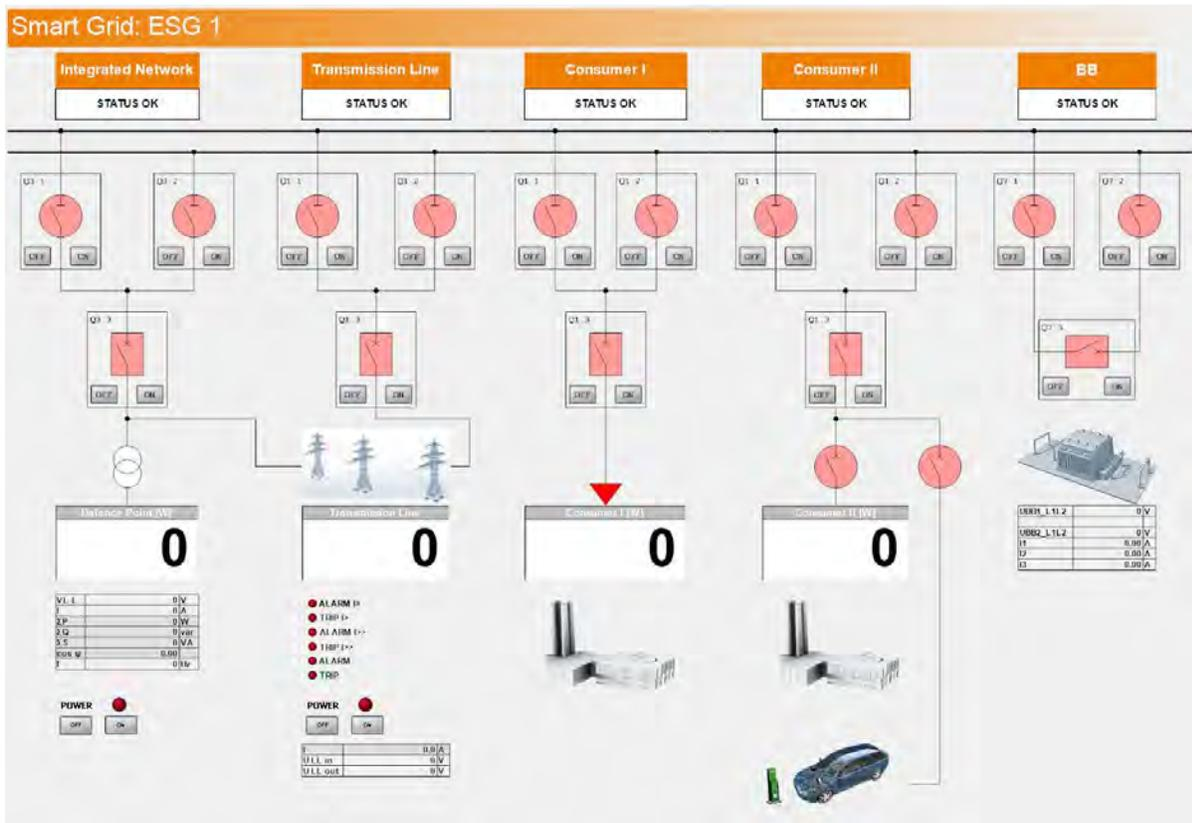

Figure 12:
3. Open the "SCADA Viewer" program directly from Labsoft  (top right) and select the file you have just saved. The SCADA user interface will look as Figure 12.